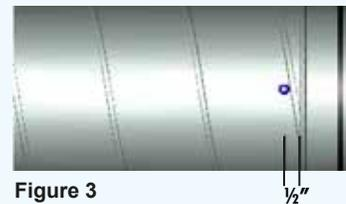

Figure 3
3. Fully insert gasketed end of fitting into the spiral pipe until it meets bead of the fitting. Turning the fitting will aid both insertion and removal (*figure 3*).
5. Fasteners should be positioned 1/2 inch from the bead to prevent damage to the gasket (*figure 3*).